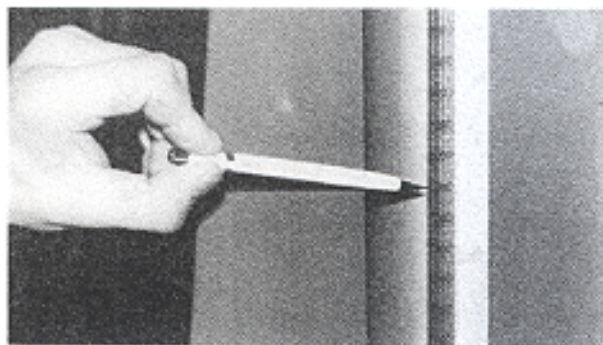
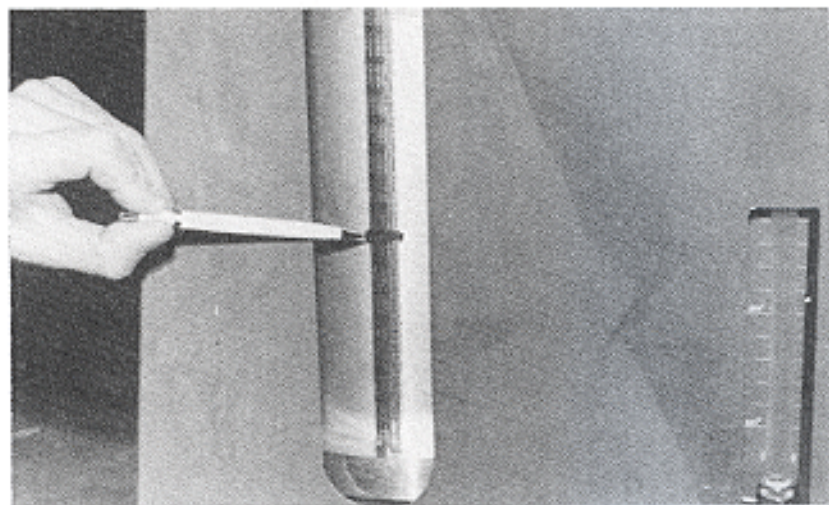

Fig.6
Fig.10
- Make sure that the internal cylinder is charged with the correct amount of refrigerant (fig 6) to be able to charge the air-conditioning system. This is done by mounting a refrigerant cylinder with hose on the inlet side and opening the valve on the cylinder on the vapour side.
- Set the MAIN SWITCH to ON. Select the RECLAIM (pos 12, page 10) process on the front panel. Now the inlet valve is to be opened (pos 15, page 11) and the station is operating.
- When the amount of liquid required (approx 2 kg) has been reached (fig 6), the valve on the cylinder must be closed and you have to wait until the compressor stops. The green light in the lamp COMPRESSOR ON extinguishes. Then the inlet valve is to be closed and the cylinder incl hose can be dismantled.
- Then you have to read the amount of refrigerant on the internal cylinder scale (fig 6). Secondly, the marking is set to the required charging amount (fig 10), and the outlet valve (pos 14, page 11) is opened. When the correct charging amount has been reached, (please be aware that small amounts do not take very long), the outlet valve is closed again.
Charging the air-conditioning system (fig 10):